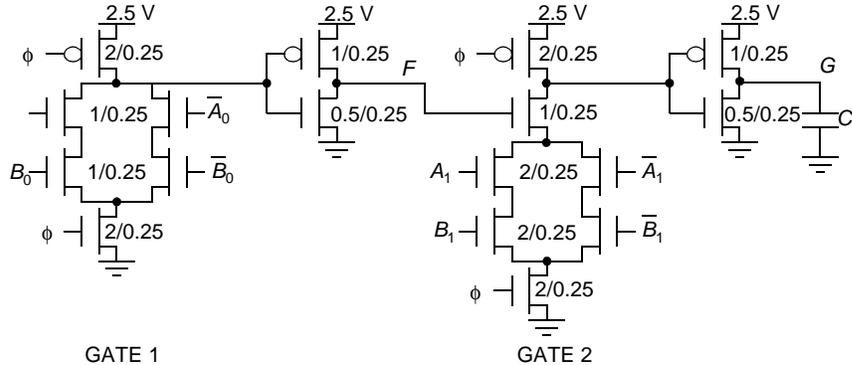

Figure 6.16 DOMINO logic circuit.
23. [C, Spice, 4.3] Figure 6.16 shows a dynamic CMOS circuit in Domino logic. In determining source and drain areas and perimeters, you may use the following approximations:  $AD = AS = W \times 0.625\mu\text{m}$  and  $PD = PS = W + 1.25\mu\text{m}$ . Assume  $0.1 \text{ ns}$  rise/fall times for all inputs, including the clock. Furthermore, you may assume that all the inputs and their complements are available, and that all inputs change during the precharge phase of the clock cycle.
24. [M, Spice, 4.3] In this problem you will consider methods for eliminating charge sharing in the circuit of Figure 6.16. You will then determine the performance of the resulting circuit.